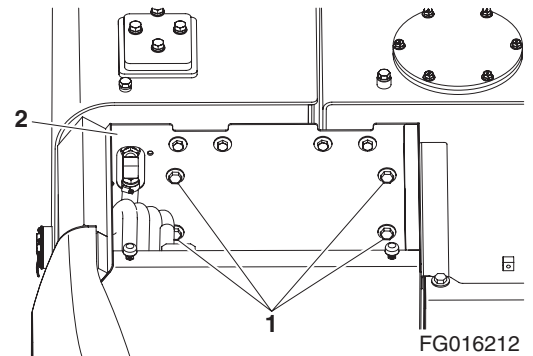

Figure 15
- A. Remove the bolts (1, Figure 15) to separate fuel tank from oil tank.
22. Remove the hose of fuel feed pump (optional) (2, Figure 15) from fuel tank.